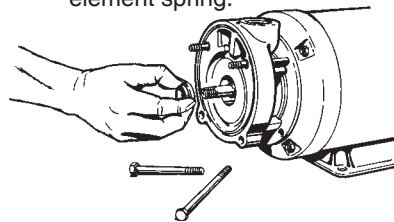

Figure 4-14
- a. While holding the motor bracket with the outlet port facing up, slide the bracket over the two (2) studs (#18) on the motor face.
- c. Install the four (4) “O” rings (#8) on the two studs. This will help hold the bracket in place during the remainder of the assembly operation.
- c. It is generally easier to remove the entire head or sealing assembly from the spring and install it on the motor shaft. Refer to Figure 4-14. This assembly lifts out of the rotating element spring.
- e. Holding the head assembly between the thumb and index finger, with the sealing face pointing toward the stationary seat, slide the assembly over the motor shaft until it rests against the seat. Refer to Figure 4-14. A slight twisting motion will allow the assembly to slide more easily.